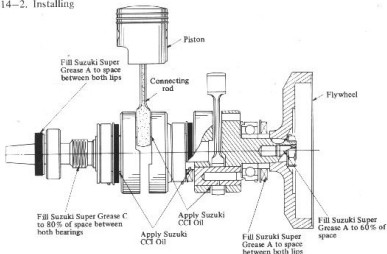

Fig. 3-46
3. Apply the oil and grease to revolution parts as shown in Fig. 3-46.